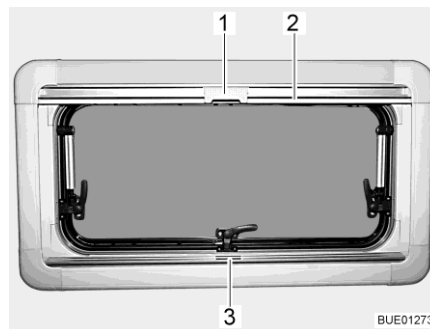
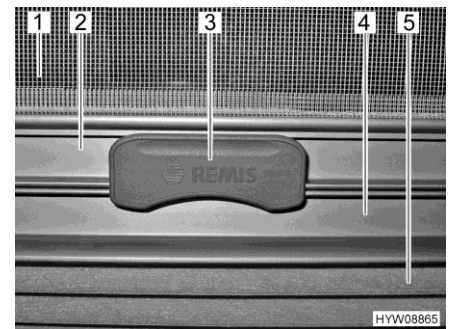

Fig. 24 Hinged window
Fig. 25 Catch
Roman shade The Roman shade (Fig. 25,5) is located in the lower blind box.
- Seize the Roman shade by the centre of the holding bar (Fig. 24,3 and Fig. 25,4), pull it from the bottom to the top and release it at the desired height. The Roman shade will stay at this height.
Insect screen The insect screen (Fig. 25,1) is located in the upper blind box.
- Pull the insect screen down by the holding bar (Fig. 24,2 and Fig. 25,2), until it touches the holding bar of the Roman shade (Fig. 25,4).
- Clip the catch (Fig. 24,1 and Fig. 25,3) on the insect screen into the holding bar of the Roman shade. When the catch is locked, the Roman shade and the insect screen can be adjusted together.
- Push the catch (Fig. 25,3) on the insect screen upward.
- Move the insect screen back slowly on the holding bar (Fig. 24,2).